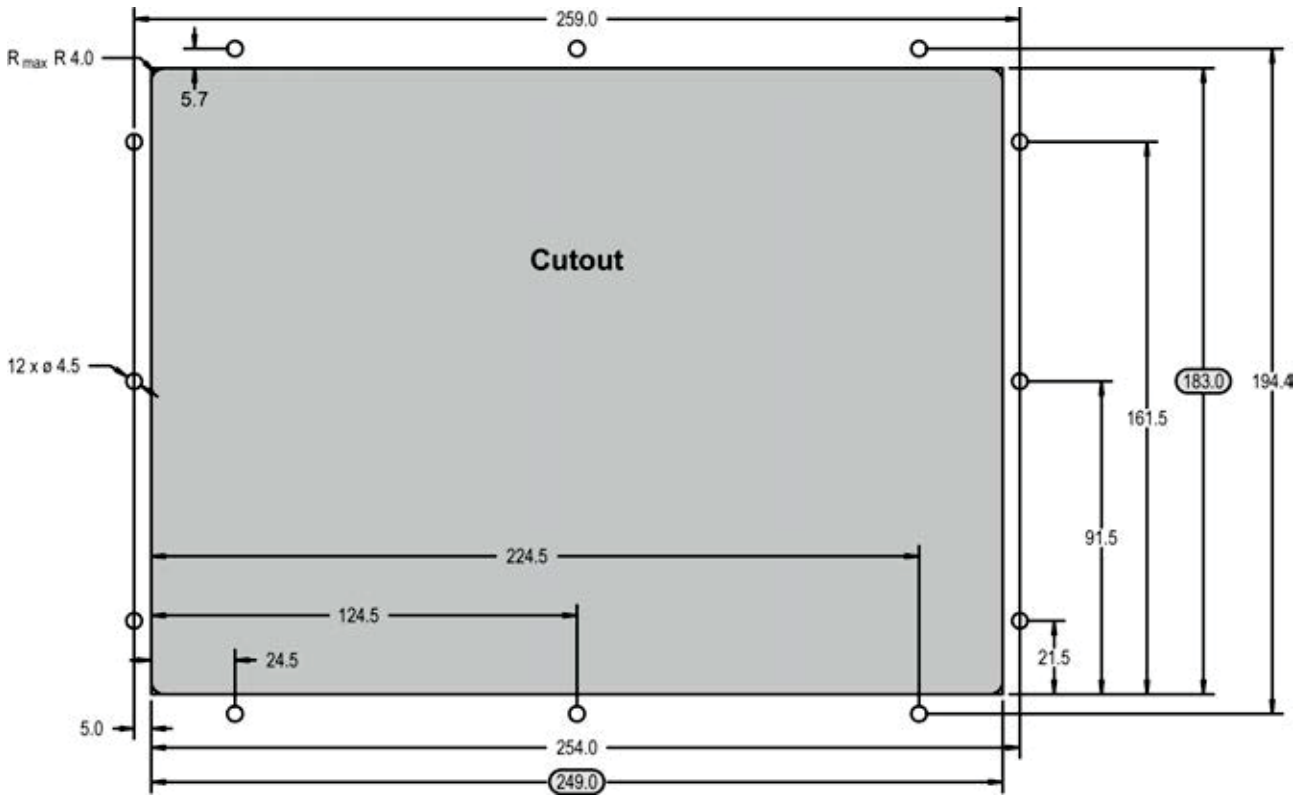

Fig. 16: Plastic housing - drill plan
The housing is equipped with 12 nut inserts (Fig. 16), which must all be tightened properly to achieve the required degree of protection.
1. ➤ Cut out the panel and drill the holes according to the dimensions in Fig. 16 (dimensions shown in mm).